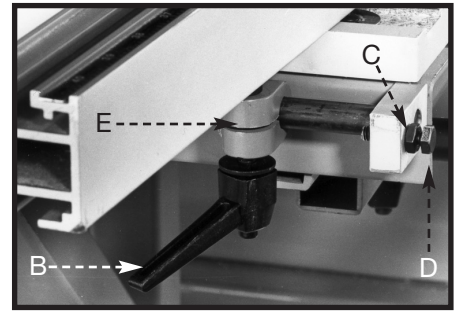

Fig. 60
4. Loosen the locknut (C) Fig. 60 and adjust the screw (D) until it contacts the bracket (E) with the fence 90 degrees to the blade. Tighten the locknut (C). Connect the machine to the power source, and make additional cuts until the cut is 90 degrees.
**NOTE:** When moving the left end of the fence for miter cutting, slide the fence by moving the lock handle (B) Fig. 60 with your hand.